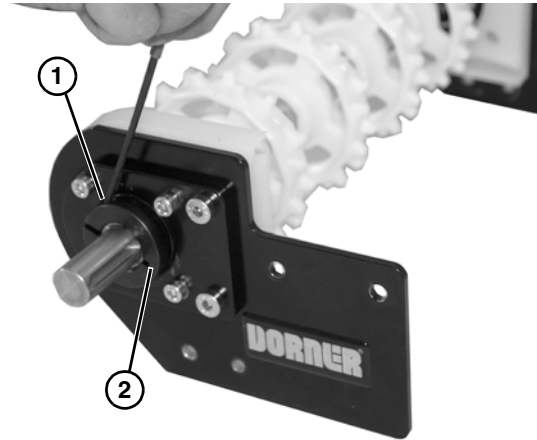

Figure 42
5. Loosen set screw (Figure 42, item 1) and remove clamp collar (Figure 42, item 2).